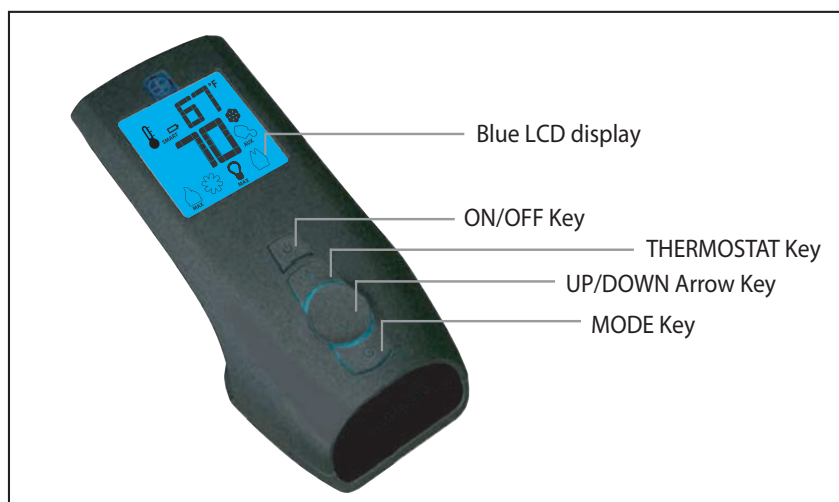
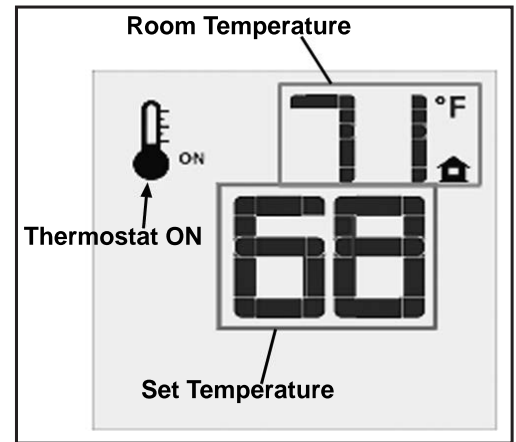
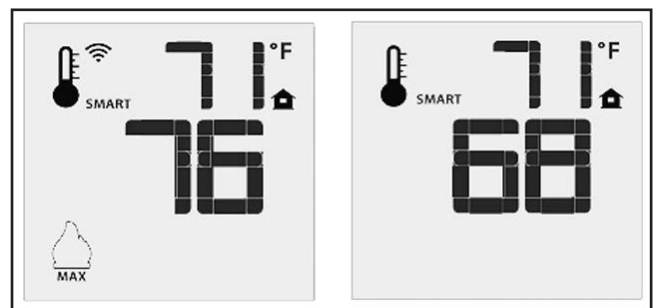
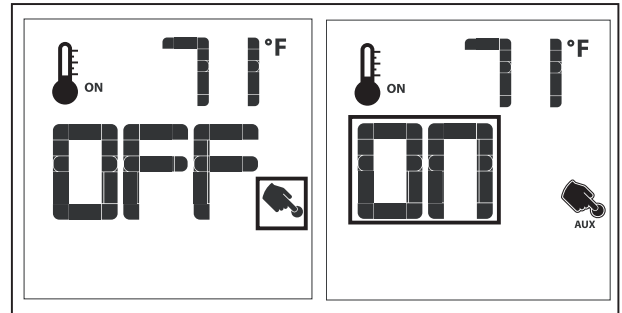

Figure 4: Proflame 2 Transmitter.
Figure 9: Remote Control Displays Set Temperature.
Figure 10: Remote Control's Smart Flame Function.
Figure 13: Aux (Top Light) Control
The Proflame 2 Transmitter is a black remote control with a blue backlit lcd display. It uses a streamline design with a simple button layout and informative lcd readout (Figure 5). The Transmitter is powered by three (3) AAA type batteries. A Mode Key is provided to Index between the features and a Thermostat Key is used to turn on/off or index through Thermostat functions (Figure 4 & Figure 5)
Press the ON/OFF Key on the Transmitter. The Transmitter LCD display will only show the room temperature and Icon (see Figure 9). A single “beep” from the IFC confirms reception of the command and both the pilot light (if the unit is not set to continuous pilot) and main burner will turn off.
The Remote Control can operate as a room thermostat. The thermostat can be set to a desired temperature to control the comfort level in a room. To activate this function, press the Thermostat Key (see Figure 4). The LCD display on the Transmitter will change to show that the room thermostat is “ON” and the set temperature is now displayed (see Figure 9). To adjust the set temperature, press the Up or Down Arrow Keys until the desired set temperature is displayed on the LCD screen of the Transmitter.
The Smart Thermostat function adjusts the flame height in accordance to the difference between the set point temperature and the actual room temperatures. As the room temperature gets closer to the set point the Smart Function will modulate the flame down. To activate this function, press the Thermostat Key (Figure 4) until the word “SMART” appears to the right of the temperature bulb graphic (Figure 10). To adjust the set temperature, press the Up or Down Arrow Keys until the desired set temperature is displayed on the LCD screen of the Transmitter.
The firebox toplight can be controlled with the Transmitter. The light is non-adjustable but can be turned on and off as desired. To control the top light press the MODE key (Figure 4) to index to the AUX control icon (Figure 13). Use the UP/DOWN arrow keys to turn the light on or off. A single beep from the IFC will confirm the command has been received. The top light is most noticeable when the flame is set to the lowest setting. It can also be left on when the flame is off (see Remote Flame Control section) to highlight the log set.